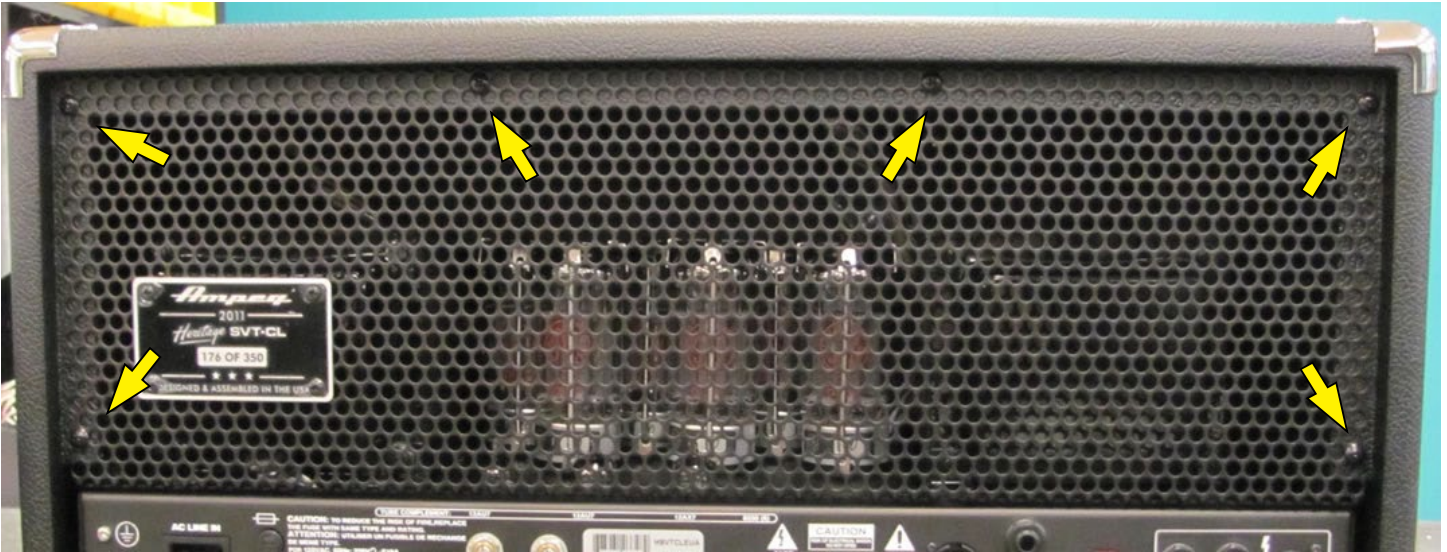

Figure 1a
1. Place the product onto work surface with the back of the unit facing you. Locate and remove the six screws to detach the rear grill, as seen in Figure 1a.
2. Place the product with the front facing forward. Locate the four screws for the pre-amp chassis, on the top front, as shown in figures 1a and 1b. Also it is advised to remove the washers as they are not affixed and tend to fall off and get lost.